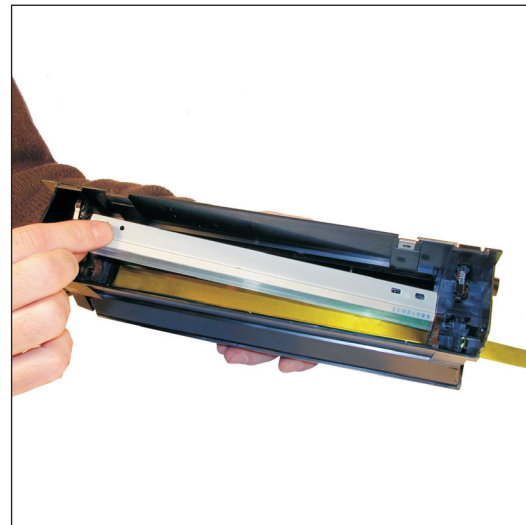

Figure 30
24) Re-install the Dr. Blade, and two screws. See Figure 30